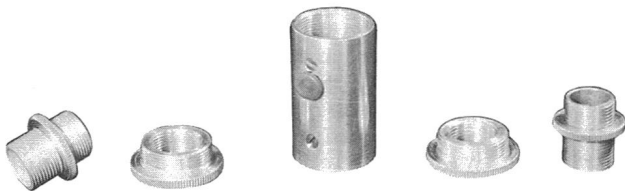

Figure 60 - GB-1014 Microphone Adapter Kit
4.03 The GB-1014 microphone adapter kit is used in the GB-1060, GB-1064, and GB-1065 assemblies. It measures 1" in diameter by 2" in length. It contains two LSM1 subminiature micro-switches with an actuator button. These micro-switches are both single pole double throw contacts. Either end of the kit adapts to 5/8-24 or 5/8-27 thread, female or male (Figure 60).